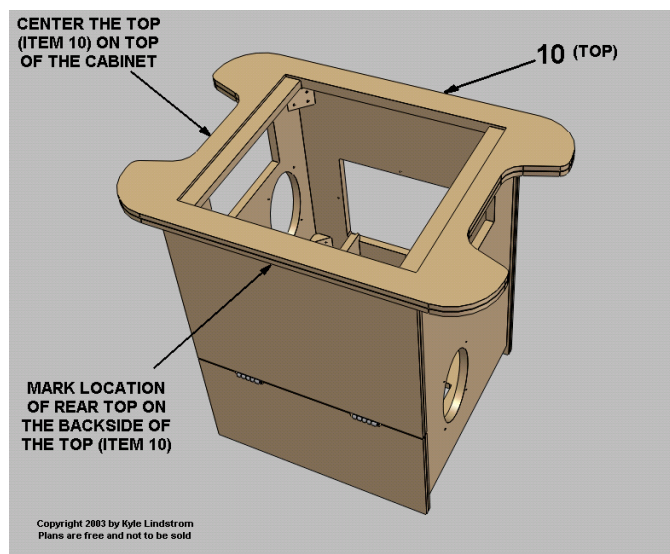
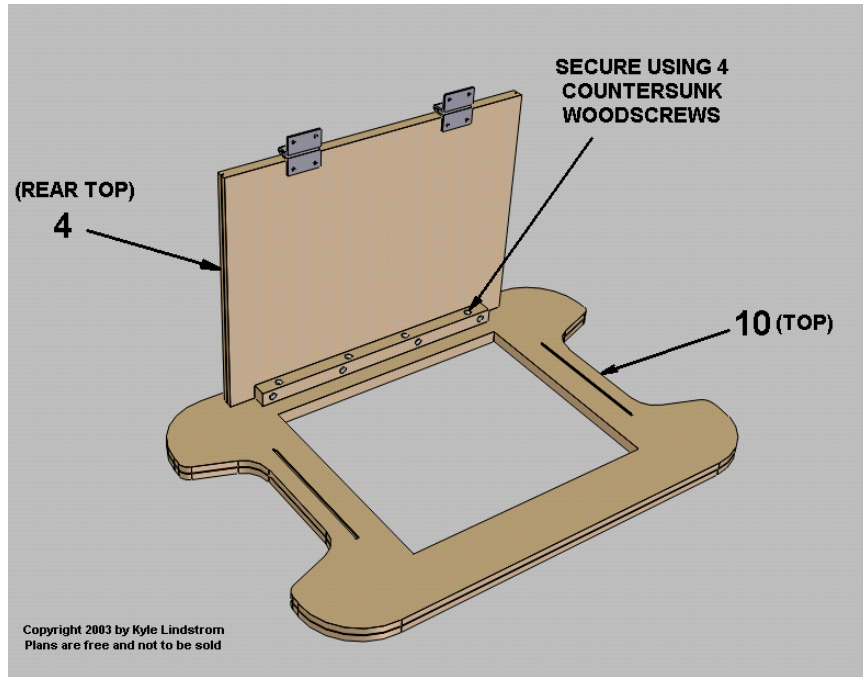

Figure 12
Figure 13
The next step is to install the Top (Item 10) to the hinged Rear Top (Item 4). Clamp the Rear Top in the closed position using a bar clamp. Next place the top (Item 10) on to the top of the cabinet. Center the top so the left and right sides have the same overhang and the front and rear have the same overhang. Once it is centered, trace the Rear Top location to the underside of the top (Item 10) to mark its location. Remove the top and place upside down. Remove the hinge(s) from the rear lower panel of the cabinet so the rear top panel is removed. Place the rear panel in the location you just marked earlier on the underside of the top. Glue and screw the rear panel to the top using (4) 1 1/2" long wood screws. Set this top assembly aside to dry and so it can be installed later in the assembly process. Figure 12 shows how the top should be placed and centered on the cabinet. The grooves around the cutout in the top (Item 10) should be facing upward. Figure 13 shows how the top rear panel attaches to the top.